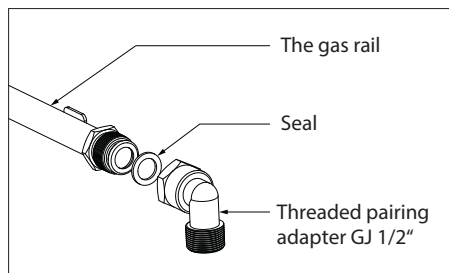

Fig. 5
- This appliance is designed to run on LPG or natural gas (NG). Adjustment for use on LPG and natural gas (NG) may only be performed by a qualified professional.
- If the appliance is connected to natural gas (NG), use a threaded pairing adapter GJ 1/2" (see Fig. 5).